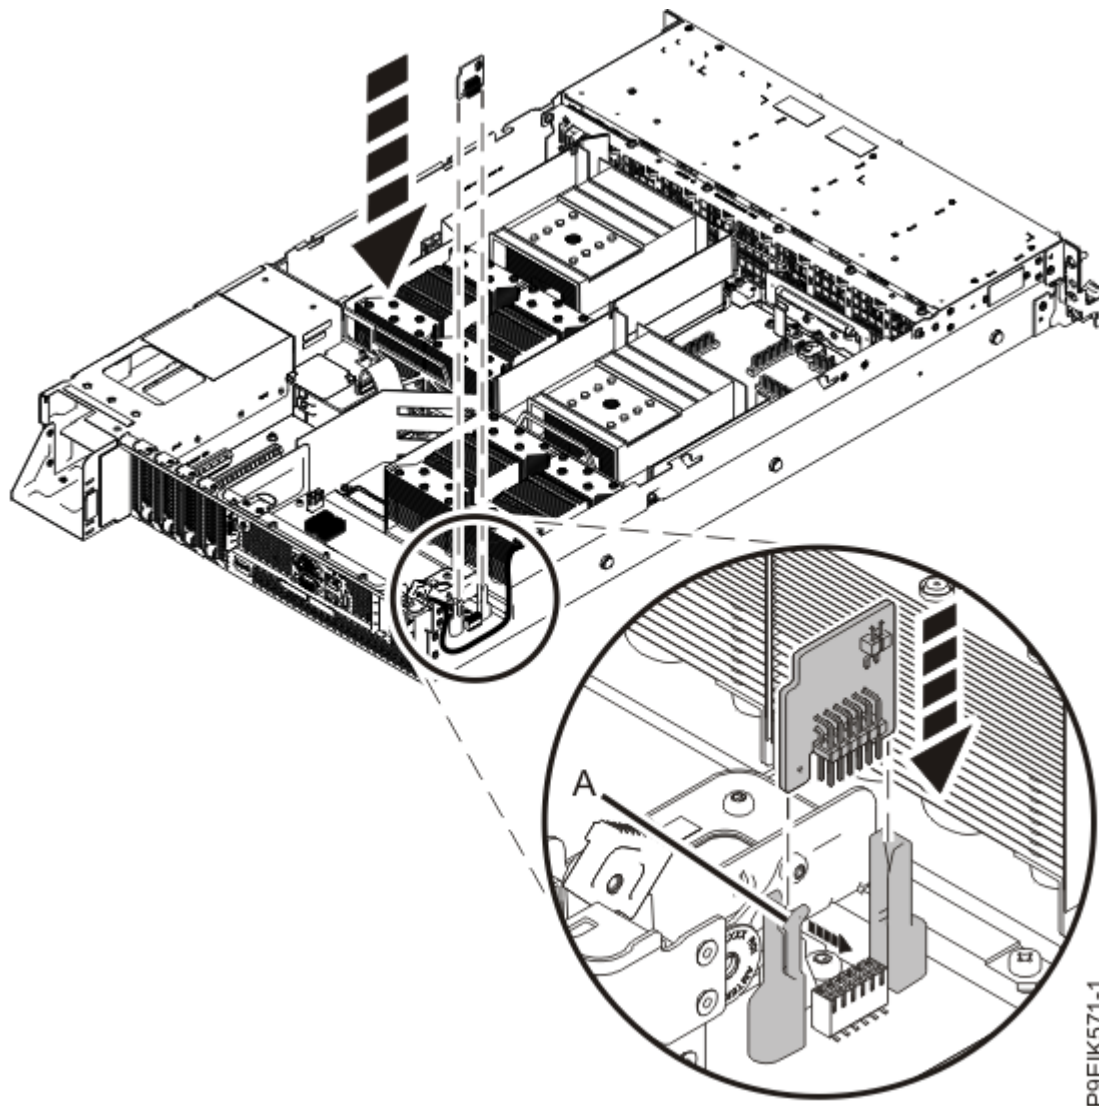

Figure 166. Replacing the trusted platform module
2. Align the trusted platform module with the plastic guides as shown in Figure 166 on page 182, and push the trusted platform module straight into the system backplane, until it is fully seated and the lever **(A)** clicks into place.